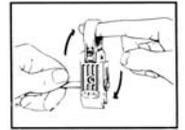

Figure 7
F. Rotate tool around coax about 5 times (Fig. 7). Push slide forward to next position in sequence. Rotate tool again. Then push slide forward to final position and rotate tool final 5 times.